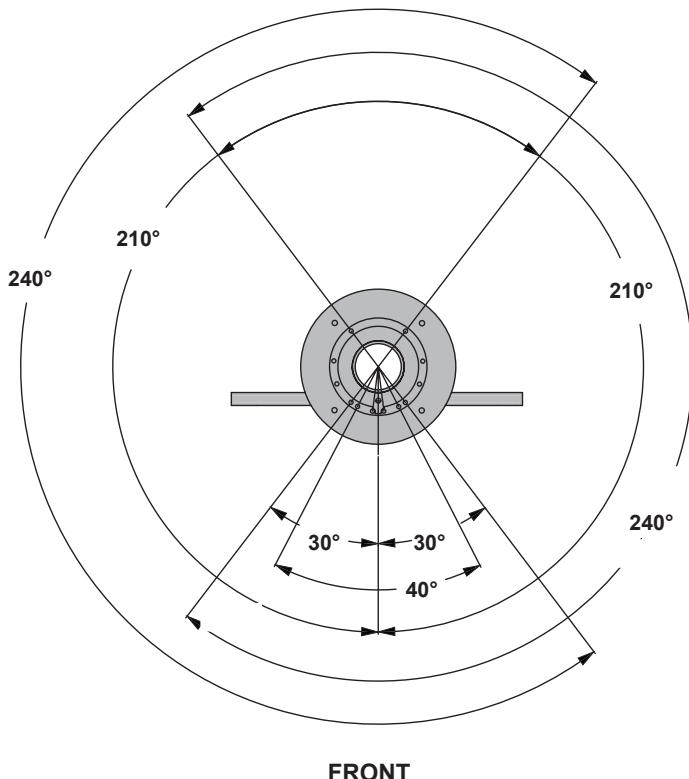

fig. 4.1
- 4** Refer to fig. 4.1 and 4.2, select the desired swivel degree. Using a 3/32" allen wrench, fasten two set screws (**M**) where indicated below to the outside of desired angle in steel base (**C**).